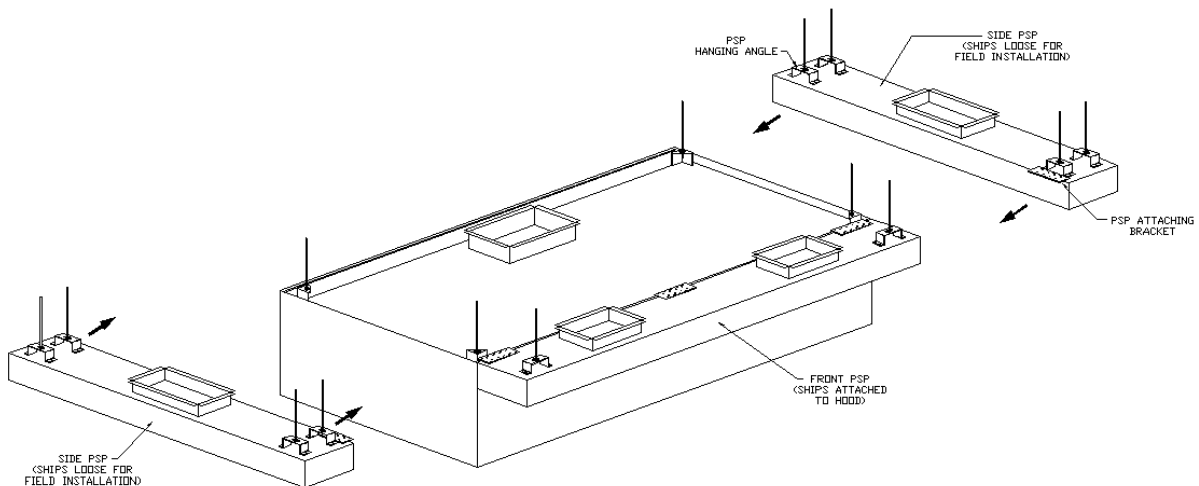

Figure 10
7. Move the PSP into position as indicated by the project submittal drawings; lining up the top edge of the PSP with the top edge of the hood. Remove the protective coating from the back of the PSP. **See Figure 10.**